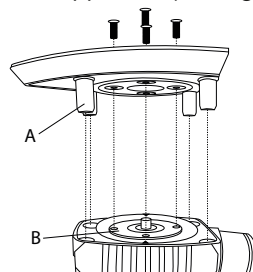

Figure 1
- Now fit the required sanding plate. Ensure that the mounting plate B is aligned with the sanding plate. The threaded holes of the mounting plate B must be aligned with the corresponding holes on the respective sanding plate. Align the plastic pins A **13** (only on sanding plates **7** and **9**) with the holes in the appliance (see Fig. 1).